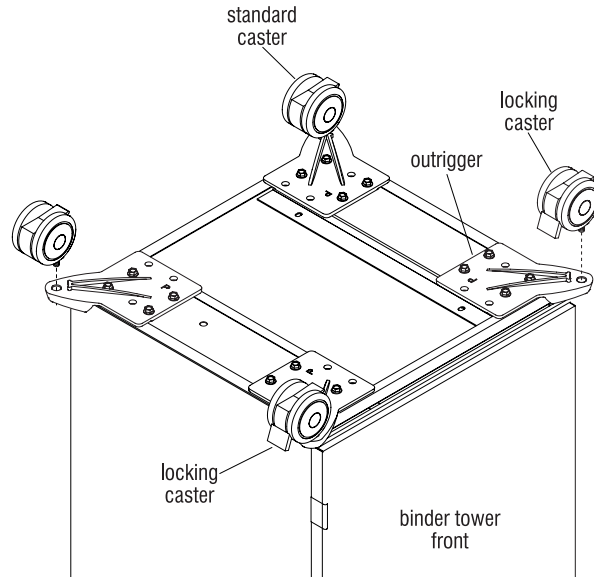

Figure 1
3. Thread the casters into the outriggers. Locking casters must be positioned to the front of the cabinet as illustrated. Tighten the jamb-nut of each caster to the bottom of the tower with a wrench (Figure 1).
4. Gently raise the cabinet to it's upright position on the casters (Figure 1).